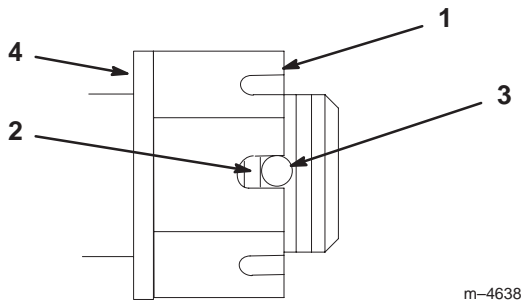

Figure 47
3. Torque slotted nut to 125ft-lb (169 N•m) (Fig. 47).
4. Check the distance from bottom of slot in nut to inside edge of hole. Two threads or less should be showing (Fig. 47).
5. If more than two threads are showing remove nut and install washer between hub and nut (Fig. 47).
6. Torque the slotted nut to 125ft-lb (169 N•m) (Fig. 47).
7. Tighten nut until the next set of slots line up with the hole in the shaft (Fig. 47).